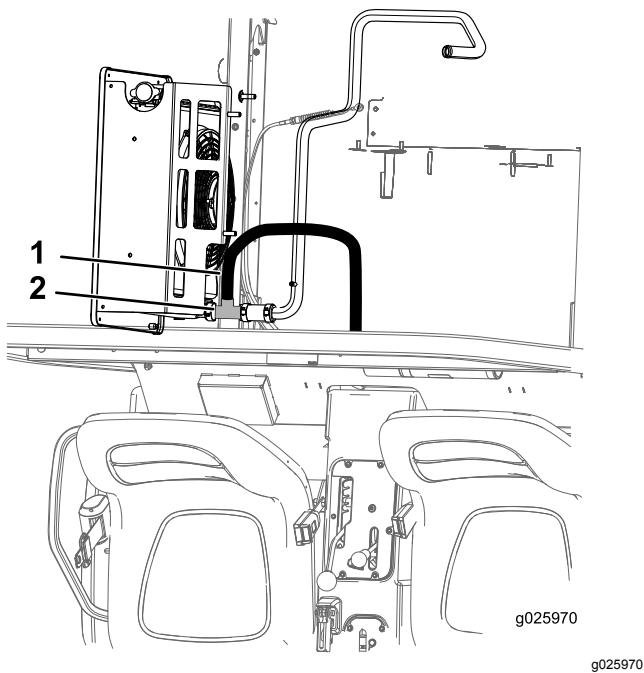

Figure 10
4. Cut the lower radiator hose and connect the tee fitting to each newly cut end of the lower radiator hose with the 2 wide hose clamps (Figure 10).